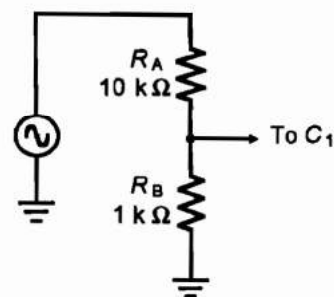

Figure 21.2
*Note:* If your function generator will not adjust to a sufficiently low signal, connect the input voltage divider network of Figure 21.2 to your circuit.